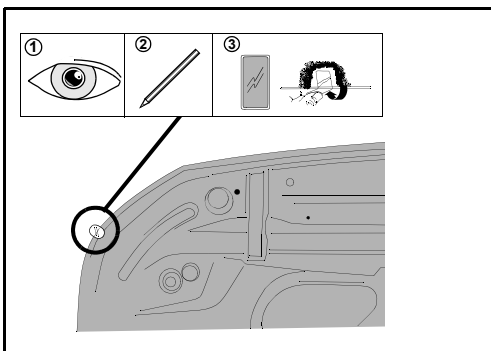

Figure 11. Abrasive resistant tape installation at outer hole locations.
11. Align the provided abrasive resistant tape with outer holes and adhere to the hood lip as shown in Figure 11; half on the underside and half on the top of the hood; at both outer hole locations.